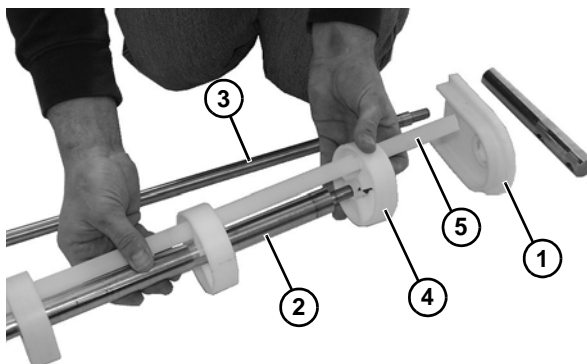

Figure 61
3. Remove pinch guard (**Figure 61, item 1**) from idler shaft (**Figure 61, item 2**) and pinch guard shaft (**Figure 61, item 3**).
4. Slide the pucks (**Figure 61, item 4**) and alignment bar (**Figure 61, item 5**) off the idler shaft (**Figure 61, item 2**).